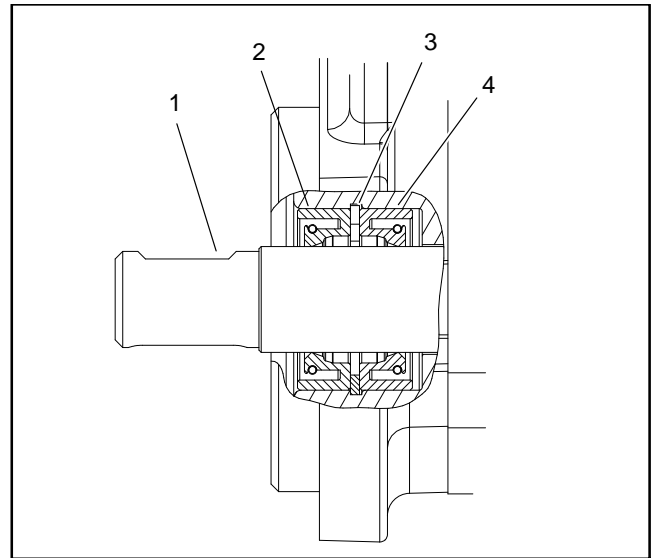

Figure 25
9. Carefully remove shaft seals and retaining ring from the front cover (Fig. 25). Note orientation of seal lips during removal. Discard removed seals.
2. Install new retaining ring and shaft seals into front cover. Note orientation of seal lips during installation (Fig. 25). Seals should be pressed into place until they reach the retaining ring.